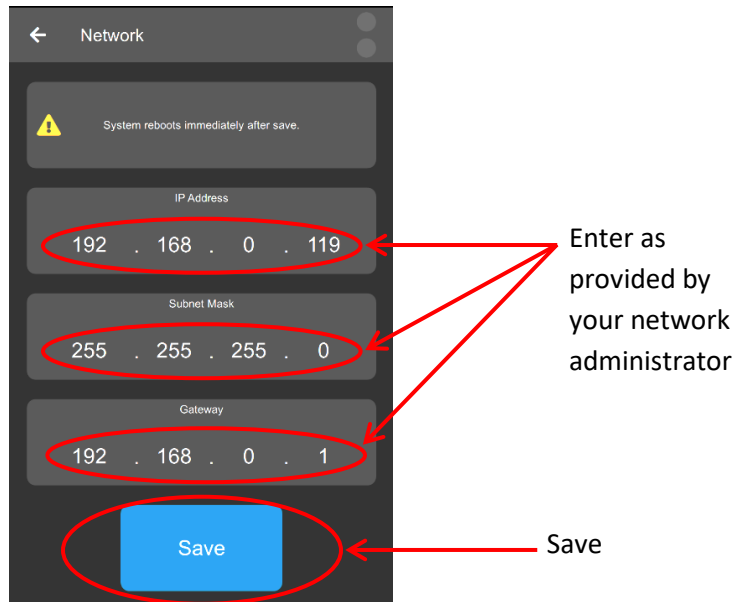

Figure 64: Network Settings Entry Screen
- b. Enter the IP Address, Subnet Mask, and Gateway to connect to the local network and press **Save**. See Figure 64.